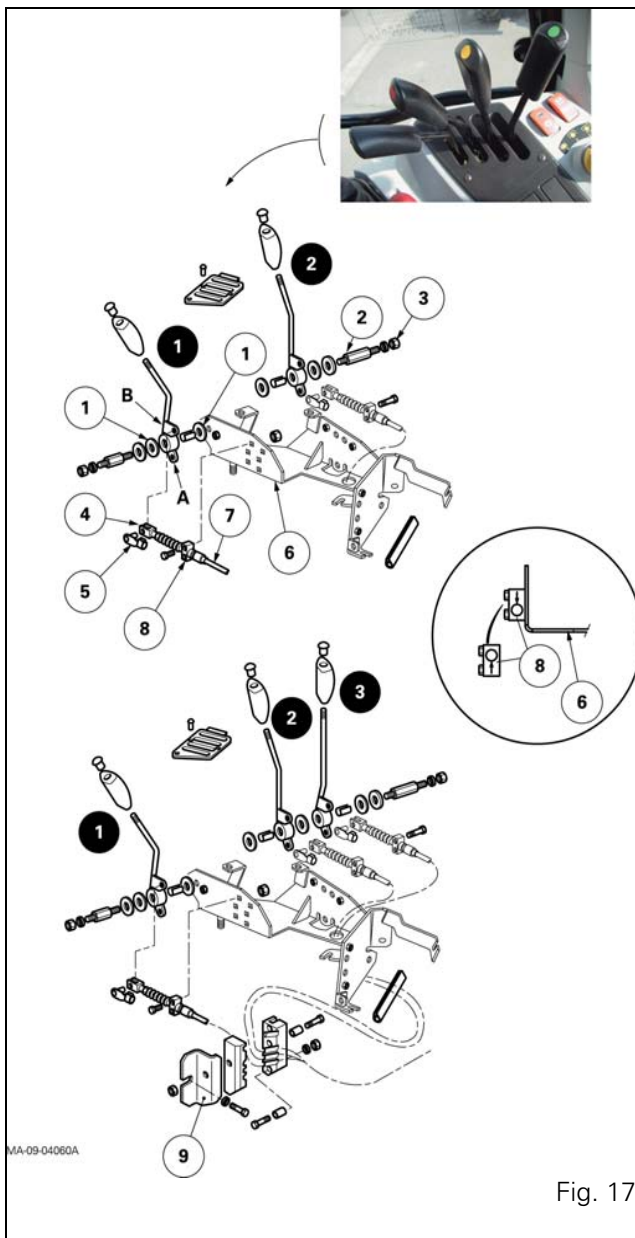

Fig. 17
- The pins (2) should be fitted with the threads slightly smeared with loctite 241 or equivalent. (Fig. 17).
- The friction washers (1) should be smeared with molybdenum disulphide grease before fitting.
- The nuts (3) must be tightened so as to obtain a slight resistance for the levers during operation.
17. Pass the cable through the flange (9) located at the rear right of the cab and then through the yoke (8).
NOTE: The hole in yoke (8) is eccentric (Fig. 17). To lift a control for a spool valve with floating position, the hole must be at the top as to correctly align the cable and its fastening.
18. Screw the clevis (4) flush with the threaded part of the cable (7) and fit it on link "A" or "B" of lever concerned. Fit the clip (5).
24. Start the tractor engine. Using the relevant lever (2) (Fig. 17), check that the three or four positions of the spool valve (depending on model) engage correctly.